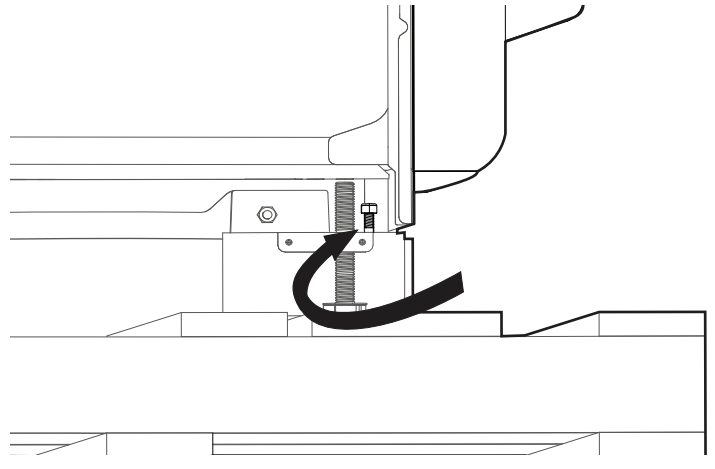

Figure 8: Removal of Bolts Beneath Warming Drawer
3. **PRDS48JDSGU/C models:** To access the pallet bolt located beneath the warming drawer, reach up and behind the frame of the unit with one 1/2" wrench to hold the nut at the top (see Figure 8). Use the second wrench to loosen the bolt at the bottom. **DO NOT remove the warming drawer.**